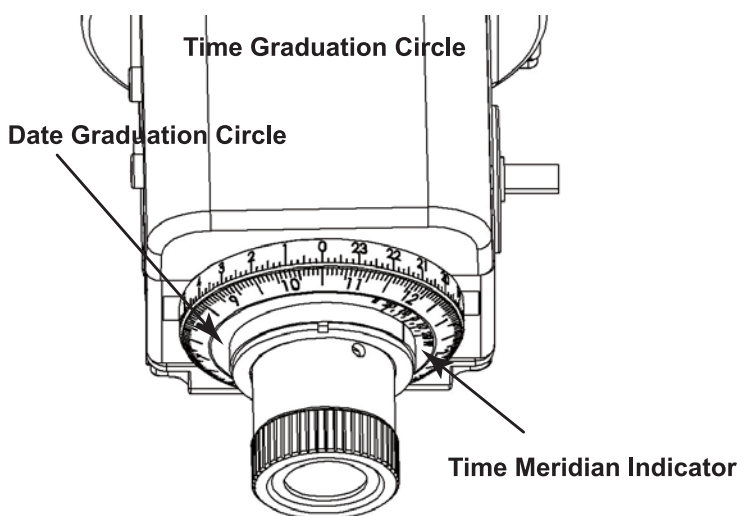

Fig 27
2. Then rotate the **Date Graduation Circle** to align Oct 31 to the 0 of the **Time Graduation Circle** and Turn eyepiece/mount to align the **Time Meridian Indicator** to the 0 of the **Time Meridian Circle** (Fig 27). This is the date and time when the orientation of Polaris is directly below the north pole (6 o'clock).